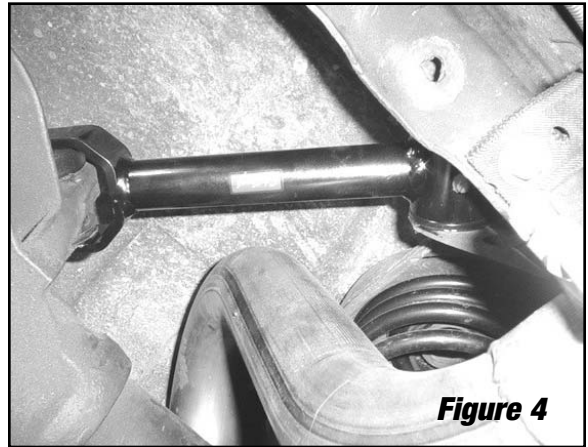

Figure 4
4. Install new trailing arms with the grease fittings facing down, locating the front bolt first (*See Figure 4*). Use heavy supplied 1/2 washer on this end.